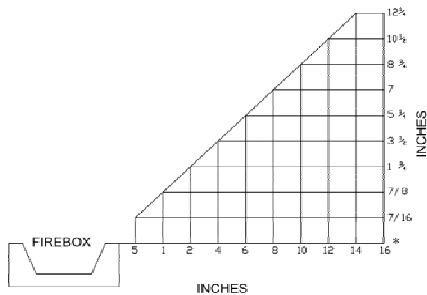

Figure 4-Minimum Clearance for Combustible to Wall
- A. Clearance from the side of the fireplace opening to any combustible material and wall should follow diagram in Figure 4.